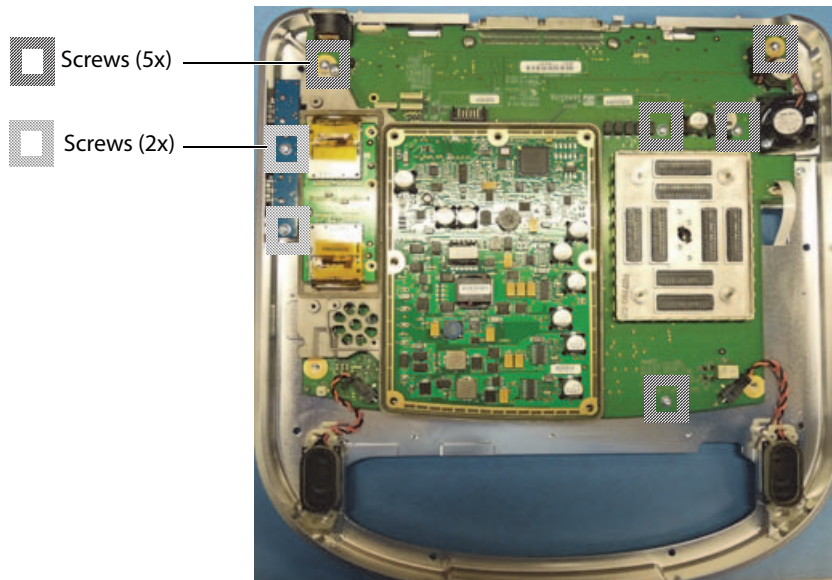

Figure 6.15 Main PCBA Screws
- 3 Remove the 5 screws holding the Main PCBA and the 2 screws holding the USB Extension PCB onto the EDGE Base. Refer to Figure 6.15.